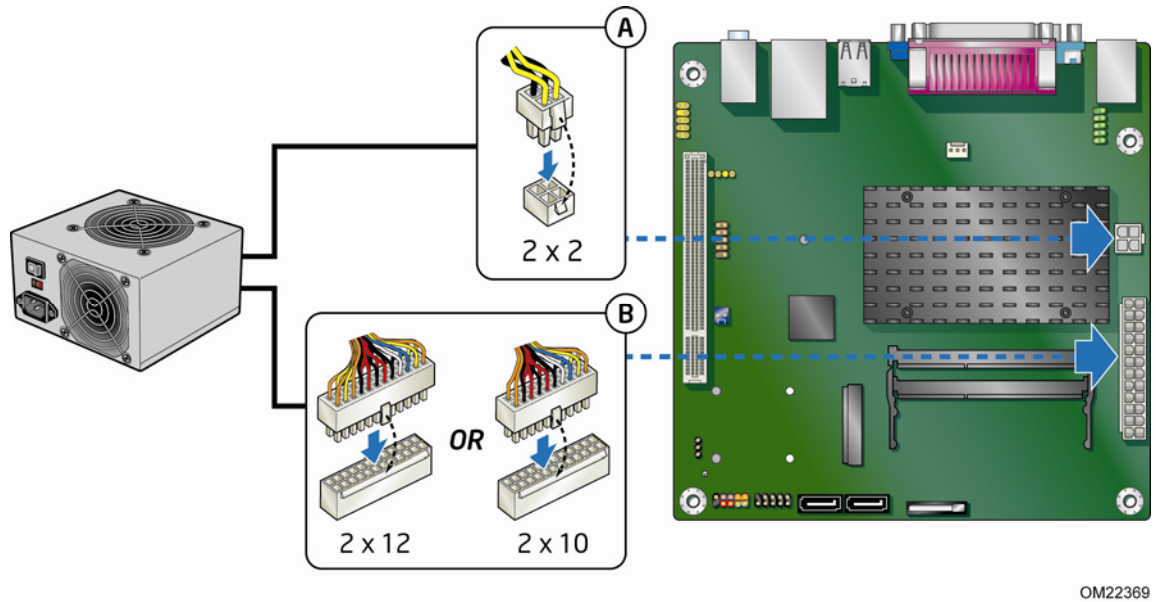

Figure 14. Connecting Power Supply Cables
Figure 14 shows the location of the power connectors.
2. Connect the main power supply cable to the 2 x 12 pin connector (Figure 14, B).
3. Connect the 12 V processor core voltage power supply cable to the 2 x 2 pin connector (Figure 14, A).